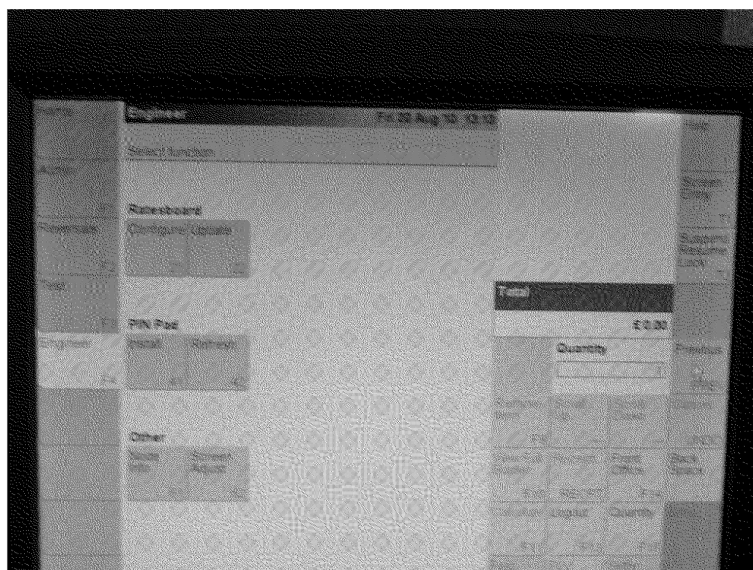

Figure 20
- 11) The Branch Manager should touch the 'Update' icon (22). After a few seconds, you will be navigated back to the engineer screen (Figure 20 above)